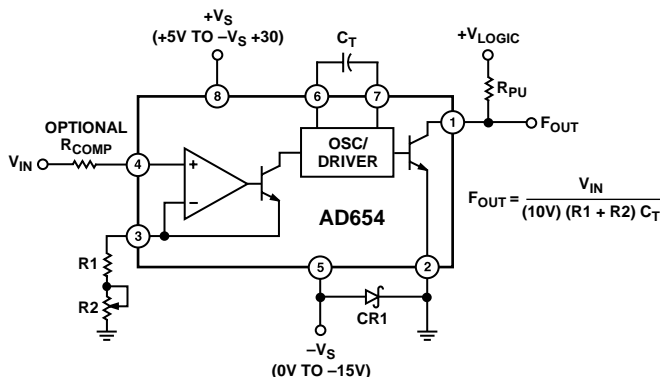
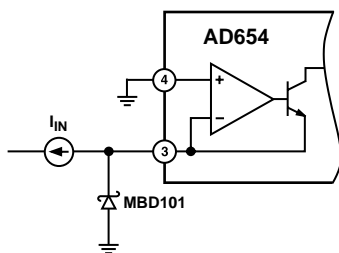

Figure 1. Standard V-F Connection for Positive Input Voltages
Figure 5. Input Protection
The AD654's block diagram appears in Figure 1. A versatile operational amplifier serves as the input stage; its purpose is to convert and scale the input voltage signal to a drive current in the NPN follower. Optimum performance is achieved when, at the full-scale input voltage, a 1 mA drive current is delivered to the current-to-frequency converter (an astable multivibrator). The drive current provides both the bias levels and the charging current to the externally connected timing capacitor. This "adaptive" bias scheme allows the oscillator to provide low nonlinearity over the entire current input range of 100 nA to 2 mA. The square wave oscillator output goes to the output driver which provides a floating base drive to the NPN power transistor. This floating drive allows the logic interface to be referenced to a level other than  $-V_S$ .
In the connection scheme of Figure 1, the input amplifier presents a very high (250 M $\Omega$ ) impedance to the input voltage, which is converted into the proper drive current by the scaling resistors at Pin 3. Resistors R1 and R2 are selected to provide a 1 mA full-scale current with enough trim range to accommodate the AD654's 10% FS error and the components' tolerances. Full-scale currents other than 1 mA can be chosen, but linearity will be reduced; 2 mA is the maximum allowable drive. The AD654's positive input voltage range spans from  $-V_S$  (ground in sink supply operation) to four volts below the positive supply. Power supply rejection degrades as the input exceeds  $(+V_S - 3.75 \text{ V})$  and at  $(+V_S - 3.5 \text{ V})$  the output frequency goes to zero.
As indicated by the scaling relationship in Figure 1, a 0.01  $\mu\text{F}$  timing capacitor will give a 10 kHz full-scale frequency, and 0.001  $\mu\text{F}$  will give 100 kHz with a 1 mA drive current. Good V/F linearity requires the use of a capacitor with low dielectric absorption (DA), while the most stable operation over temperature calls for a component having a small tempco. Polystyrene, polypropylene, or Teflon\* capacitors are preferred for tempco and dielectric absorption; other types will degrade linearity. The capacitor should be wired very close to the AD654. In Figure 1, Schottky diode CR1 (MBD101) prevents logic common from dropping more than 500 mV below  $-V_S$ . This diode is not required if  $-V_S$  is equal to logic common.
The AD654 was designed to be used with a minimum of additional hardware. However, the successful application of a precision IC involves a good understanding of possible pitfalls and the use of suitable precautions. Thus  $+V_{IN}$  and  $R_T$  pins should not be driven more than 300 mV below  $-V_S$ . Likewise, Logic Common should not drop more than 500 mV below  $-V_S$ . This would cause internal junctions to conduct, possibly damaging the IC. In addition to the diode shown in Figures 1 and 2 protecting Logic Common, a second Schottky diode (MBD101) can protect the AD654's inputs from "below  $-V_S$ " inputs as shown in Figure 5. It is also desirable not to drive  $+V_{IN}$  and  $R_T$  above  $+V_S$ . In operation, the converter will exhibit a zero output for inputs above  $(+V_S - 3.5 \text{ V})$ . Also, control currents above 2 mA will increase nonlinearity.